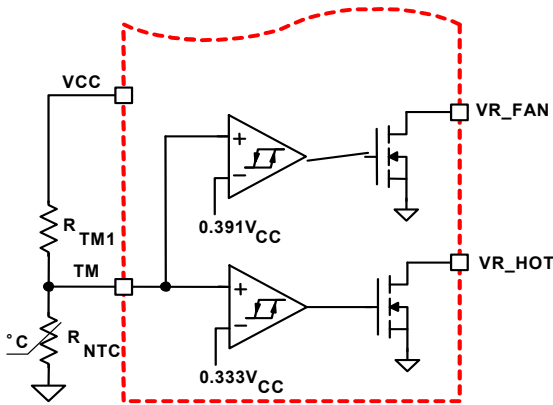
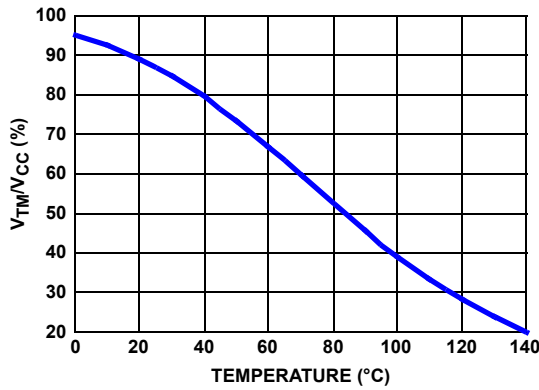

FIGURE 15. BLOCK DIAGRAM OF THERMAL MONITORING FUNCTION
FIGURE 16. THE RATIO OF TM VOLTAGE TO NTC TEMPERATURE WITH RECOMMENDED PARTS
The diagram of thermal monitoring function block is shown in Figure 15 on page 21. One NTC resistor should be placed close to the power stage of the voltage regulator to sense the operational temperature, and one pull-up resistor is needed to form the voltage divider for the TM pin. As the temperature of the power stage increases, the resistance of the NTC will reduce, resulting in the reduced voltage at the TM pin. Figure 16 on page 21 shows the TM voltage over the temperature for a typical design with a recommended $6.8\text{k}\Omega$ NTC (P/N: NTHS0805N02N6801 from Vishay) and $1\text{k}\Omega$ resistor RTM1. We recommend using those resistors for accurate temperature compensation.
Based on VCC voltage, the ISL6334D converts the TM pin voltage to a 6-bit TM digital signal for temperature compensation. With the non-linear A/D converter of ISL6334D, the TM digital signal is linearly proportional to the NTC temperature. For accurate temperature compensation, the ratio of the TM voltage to the NTC temperature of the practical design should be similar to that in Figure 16 on page 21.
1. Properly choose the voltage divider for the TM pin to match the TM voltage vs temperature curve with the recommended curve in Figure 16.